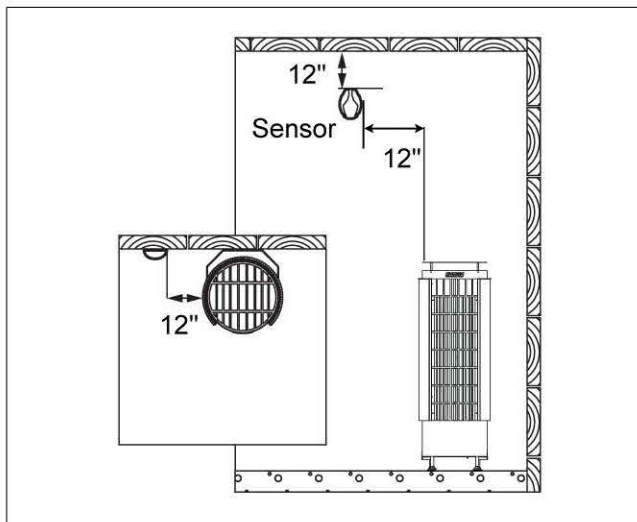

Figure 6. Installing the temperature sensor
**Install the temperature sensor as shown in figure 6. The sensor is either located in the control unit box or inside the heater box.**